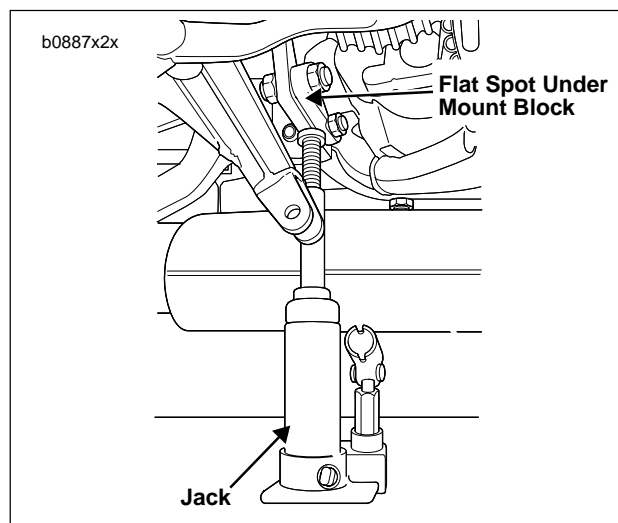

Figure 2-106. Supporting Motorcycle with Jack
- a. See Figure 2-106. Support motorcycle with jack.